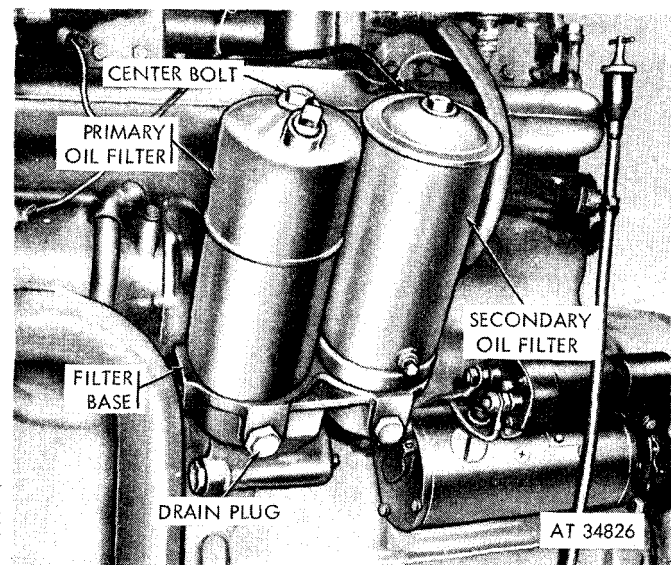

Figure 2-55. Diesel engine oil filters.
*a. Preliminary.* Remove the two drain plugs (fig. 2-55) and allow the oil to drain into a suitable container.